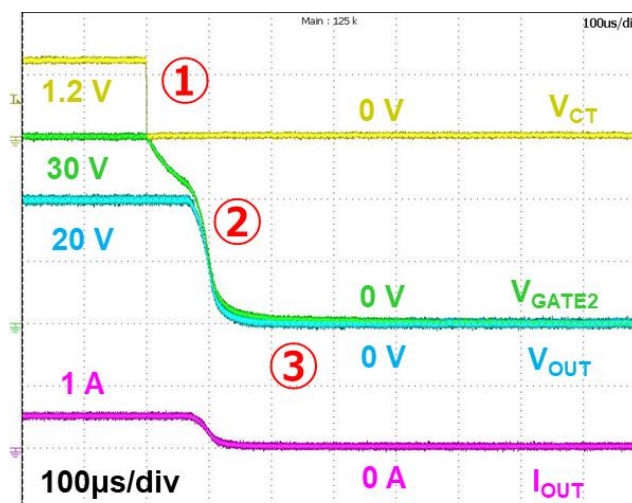

Fig 7.4 Turn-off operation (VGATE2)
Fig 7.4 is the turn-off operation of VGATE2 terminal. If  $V_{CT}$  is turned off (①),  $V_{GATE2}$  and  $V_{OUT}$  will shut down (②). When  $V_{GATE2} - V_{OUT}$  falls the gate threshold voltage  $V_{th}$  of the external MOSFET,  $V_{OUT}$  and  $I_{OUT}$  are turned off completely (③).